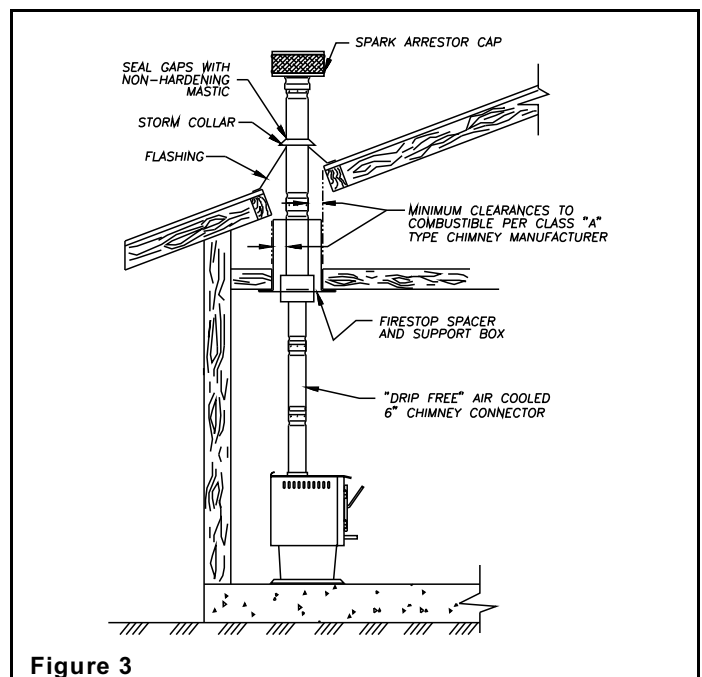

Figure 3
5. Now place the hearth pad over the air intake duct hole. Be sure the hole in the pad lines up with the air duct hole in the floor. You are now ready to place a #8 copper grounding wire in position by feeding it down through the air intake duct. Lay out a sufficient length of wire across the hearth pad (toward the rear wall), in such a manner that you have access to the end of it, even after placing the stove on the pad (Figure 3).
6. Set stove on hearth pad. Feed the #8 Copper grounding wire up through one of the 2" holes in the bottom of the stove's pedestal (Figure 3). Carefully measure once more to make sure that both stove and pad are placed to meet proper clearances to combustibles. Using a 5/16" metal drill bit, drill one hole on each side of the pedestal flange for the anchor bolts to pass through (Figure 3). Mark and drill the two anchor holes with the 1/4" Masonry drill bit. Bolt down the stove using the two 1/4" x 3" lag bolts provided. The #8 copper wire should now be attached to the grounding lug on the inside of the pedestal cover plate using the hex nut and star washer provided. The loose end of this #8 copper wire (which is hanging down through the air intake duct) must be secured to the steel frame beneath the home using a 1/4" self-tapping bolt and star washer.
ATTENTION: Be sure to secure the cover plate with grounding lug on the back of the pedestal so that the room air intake aperture is covered (Figure 3).